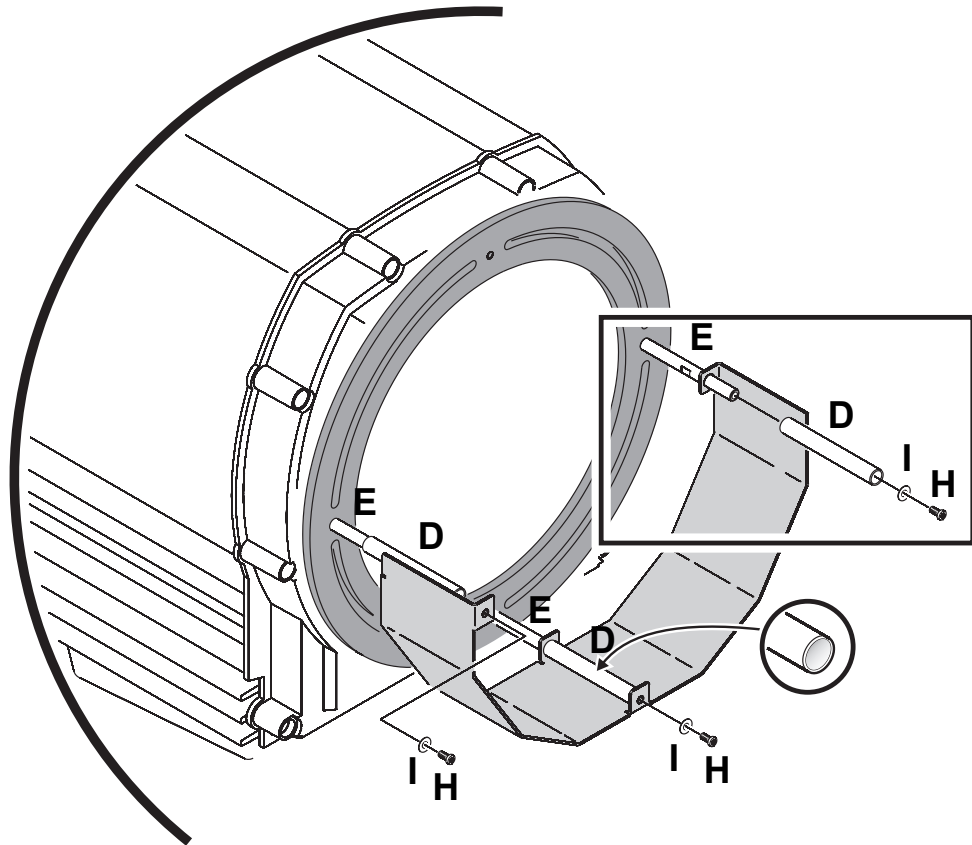

Figure 3: Snoot plate fasteners
1. See Figure 3. Screw three studs **E** into the holes provided in the mounting ring **A**. Studs have flats machined into their shafts that accept an 8 mm open-ended wrench.
2. Line up a snoot plate **B** with the studs **E** as shown in Figure 3 so that the two tabs with larger-diameter holes face towards the fixture. Slide these tabs over two studs **E**.
3. *If you are not installing any more components*, see Figure 3: install three spacers **D** on the studs **E** at each end of the snoot plate, then fasten the snoot plate to the studs **E** by screwing three M6 x 16 Allen bolts **H** with M6 washers **I** into the ends of the three studs.
- Install spacers **D** on all studs **E**, as shown in Figure 3.